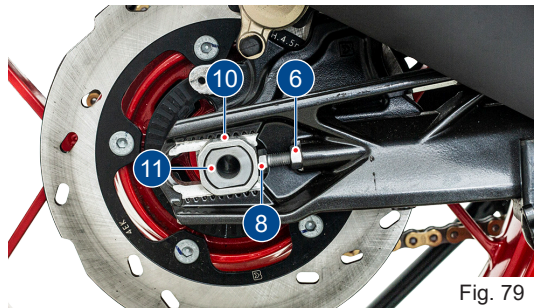

Fig. 79
- Remove the chain tensioner and push the quick-release axle (10) to the right as much as possible (**ref. Fig 79**).